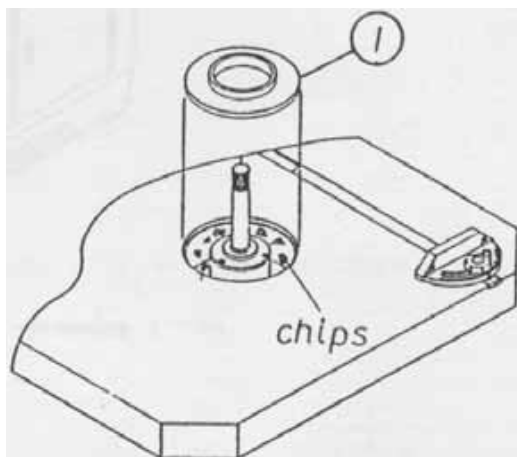

Fig. 16 Remove the Working Table Ring to Clear Chips Away
If there are a lot of chips accumulated in the working table ring (1) that makes the working table ring not seat properly. Remove the working table ring to clear chips away (see Fig. 16).